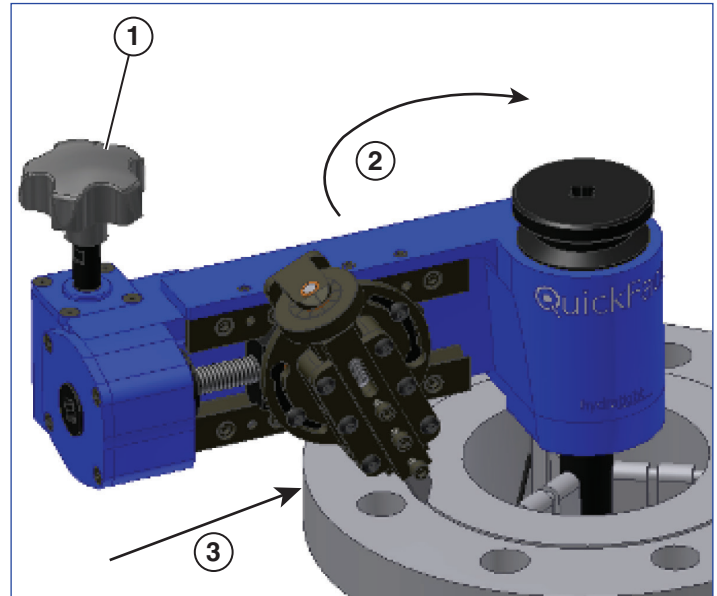

Figure 14
7. Grab the feed knob firmly in the palm of your hand. With a firm grip, pull the QuickFace around the work piece in a clockwise direction (see Figure 14). Make sure there is no loose clothing or other obstacles in the cutting path or within the QuickFace's operating parameters. If the cut requires more torque than desired, back the tool bit out of the cut with the depth adjustment knob. IF THE MACHINE CANNOT BE COMFORTABLY PULLED AROUND THE WORK PIECE, STOP THE OPERATION AND READJUST THE CUTTING DEPTH.